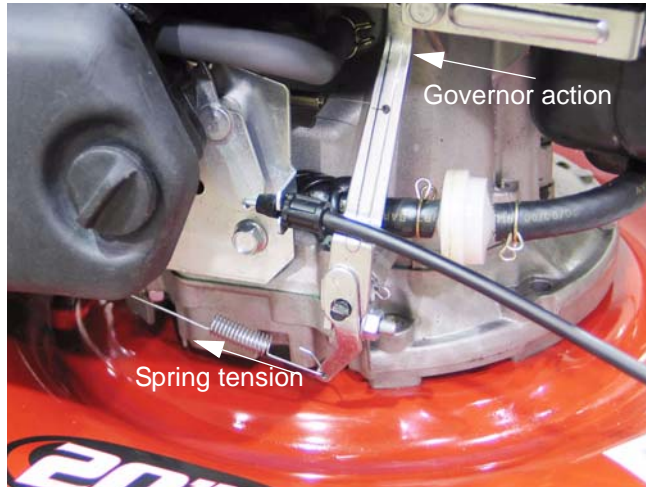

Figure 10.1
10.1. The engine speed is controlled by a balance between the force applied by a spring (pulling the throttle open) and a flyweight mechanism within the engine applying force to the governor arm (pushing the throttle closed). See Figure 10.1.